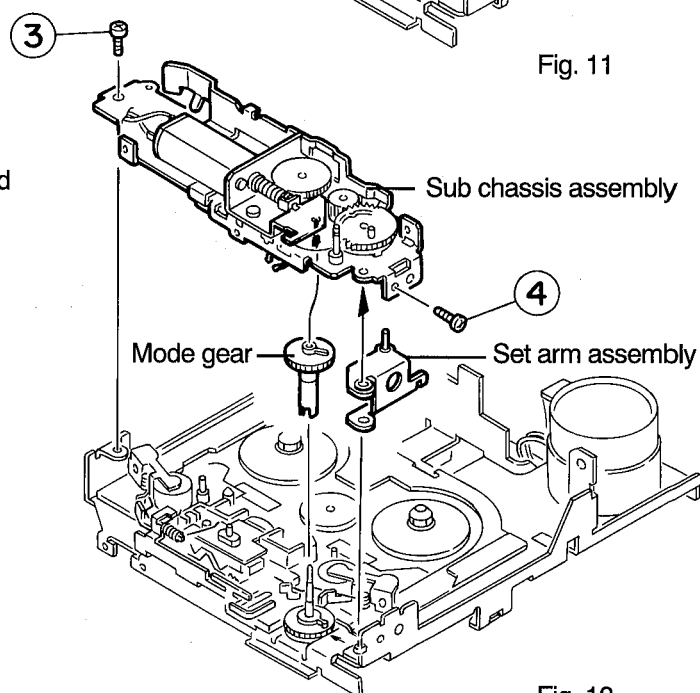

Fig. 12
■ Removing the Flywheel Assembly (See Fig. 12)
2. Install the sub chassis assembly and secure it with the two screws ③ and ④ as shown in.
- Note : The set arm assembly and the mode gear should be positioned as shown in Fig. 12.